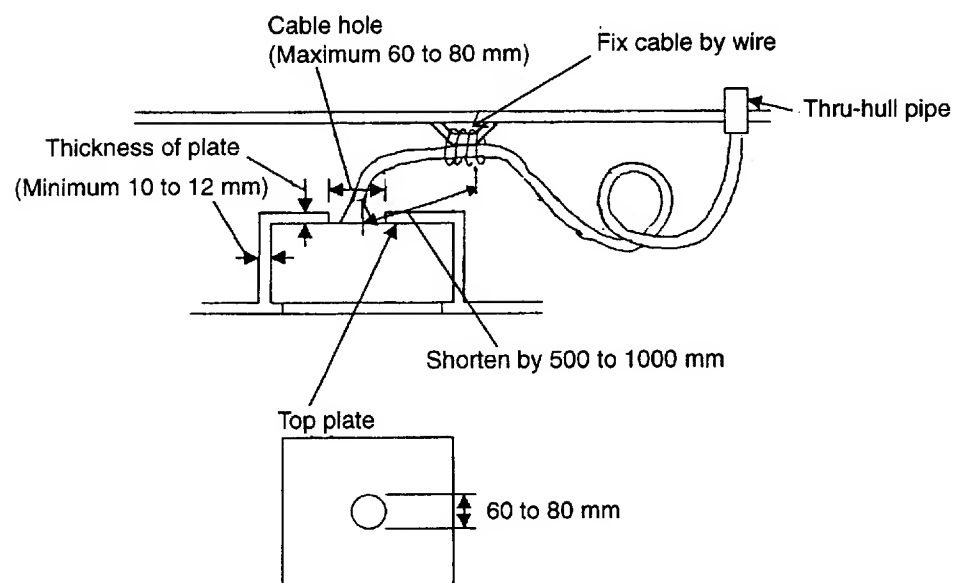

Fig.1
When the transducer CV-102 is installed on a large vessel just under the bulbous bow, we recommend that it be installed as shown in Fig. 1. FURUNO standard tank T-674 is not strong enough for big slamming.
- 3) Fix the transducer cable as shown in Fig. 1 if the distance between the transducer and the thru-hull pipe is longer than 1 m. This will prevent damage to wiring inside the transducer due to cable vibration.